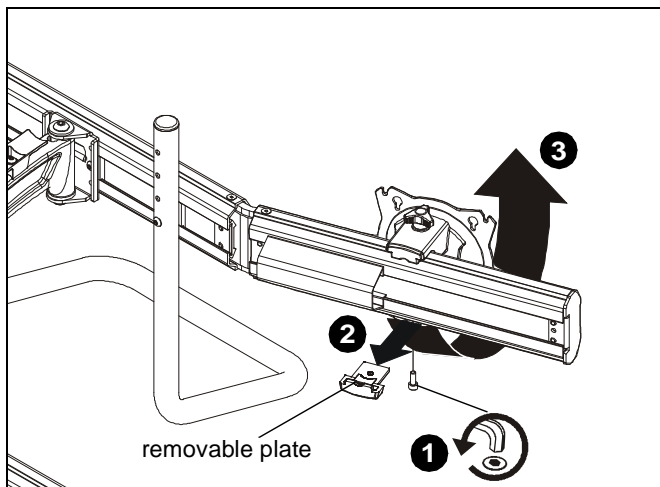

Figure 14
1. Remove socket head cap screw from bottom of faceplate assembly. (See Figure 14)
2. Slide out removable plate from bottom of faceplate assembly. (See Figure 14)
3. Remove faceplate assembly from array arm. (See Figure 14)